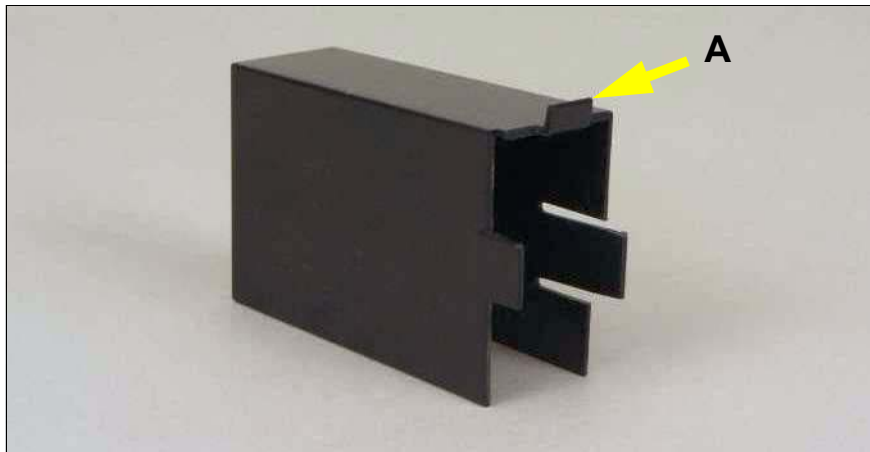

Figure 19: Ventilation hood for the core VRM module of CPU 4.
- Insert the plastic catch (see figure 19 on page 36) into the slot of the chassis cross-bar (see circle in figure above).